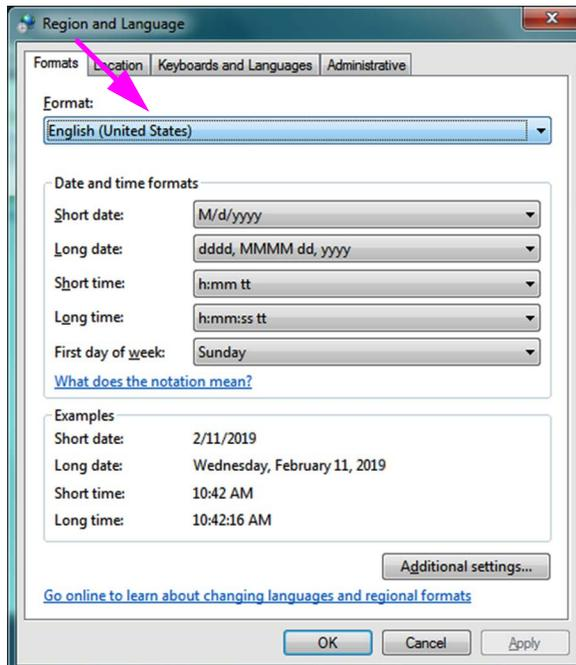
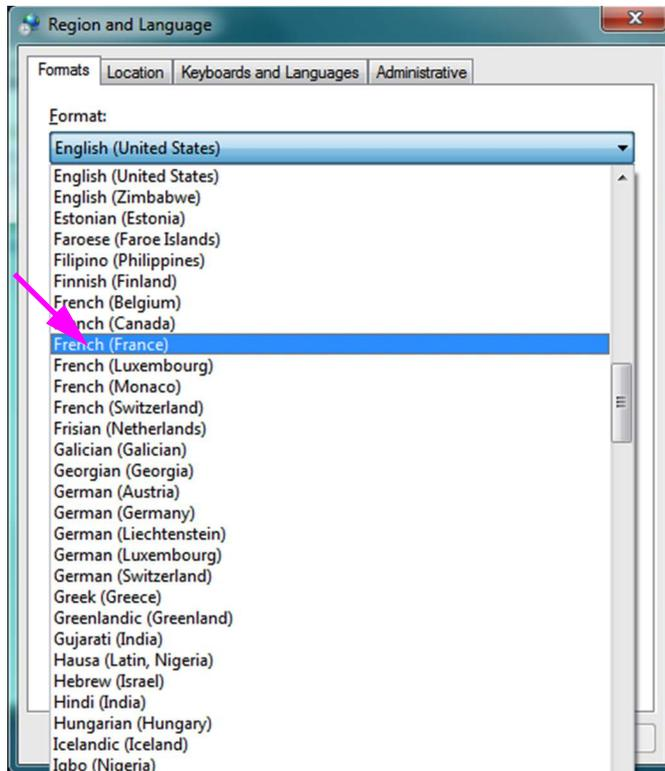

Figure C-3. Region and Language Window—Formats Tab
Figure C-4. Region and Language Screen - Drop-down Menu
5. The Region and Language window appears. See Figure C-3.
6. The **Format** drop-down box has **English (United States)** selected. Click the drop-down (see Figure C-3 and Figure C-4) listing the language selections available. Scroll the list to locate the desired language and select that entry.